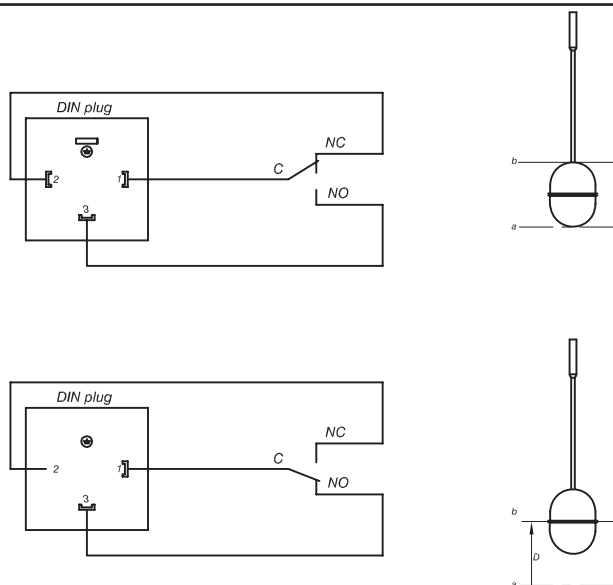
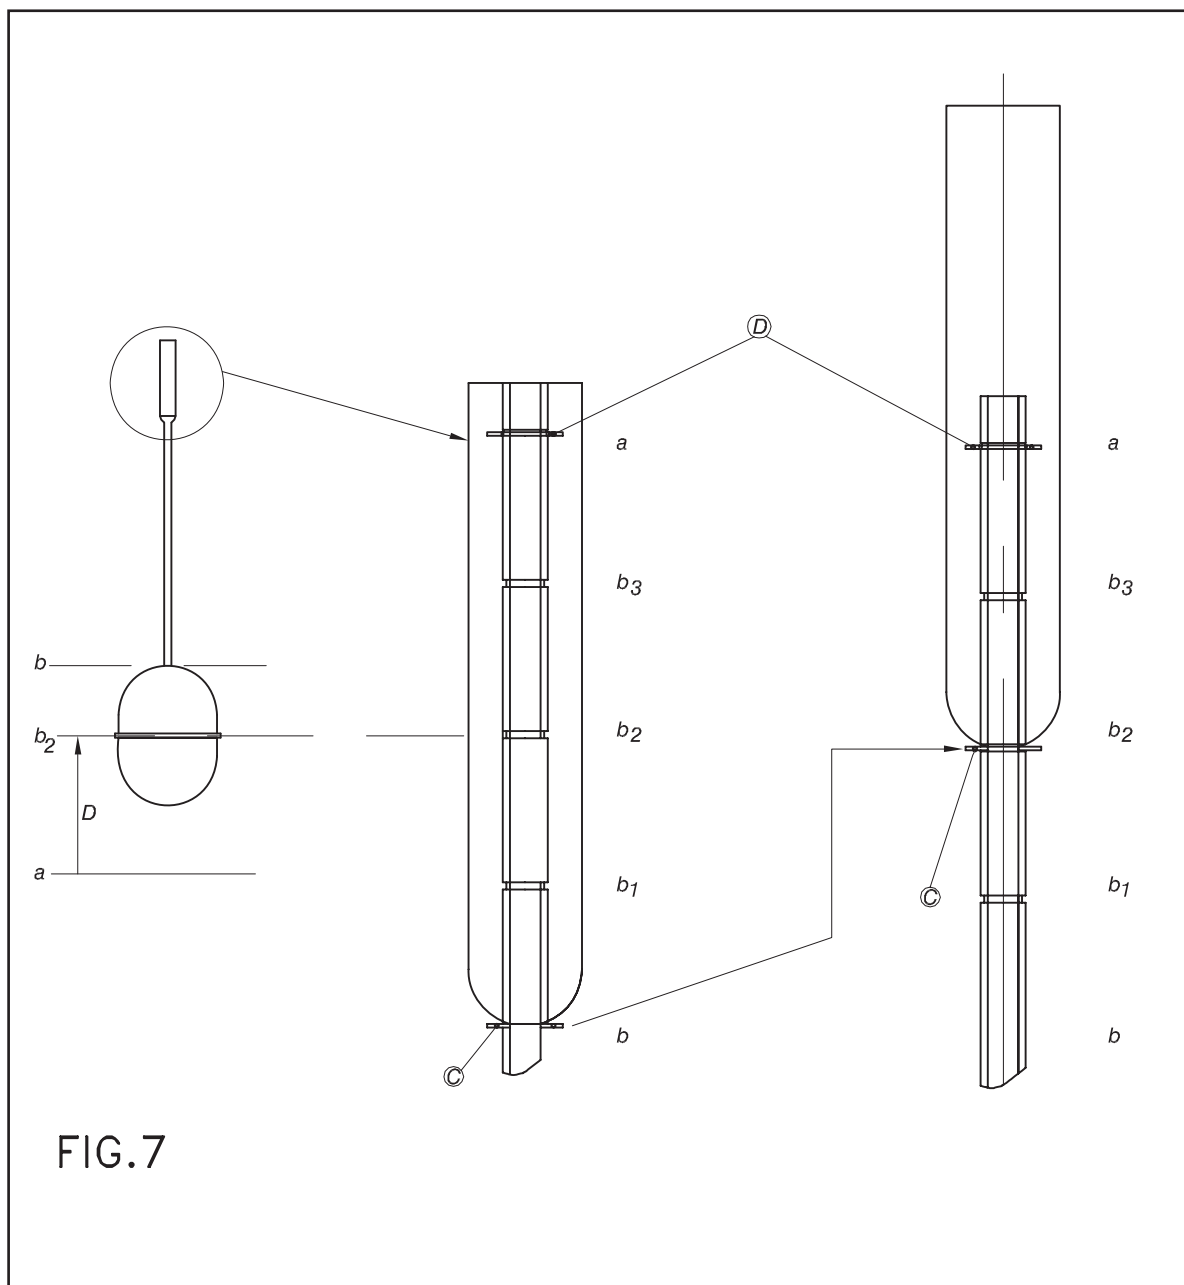

FIG.6
FIG.7
Adjusting the liquid level differential switch point (see fig. 7). The float comes factory set with a
- Reposition the lower locking ring at the required differential setting (see fig.6 and fig.7)
- 14.Electric installation make electrical connection to DIN plug using cable with maximum 4 cores and wire in accordance with wiring diagram (fig.6)
MAKE ELECTRICAL CONNECTION TO 'DIN PLUG' USING CABLE WITH MAXIMUM 4 CORES AND WIRE IN ACCORDANCE WITH WIRING DIAGRAM. (FIG. 6)